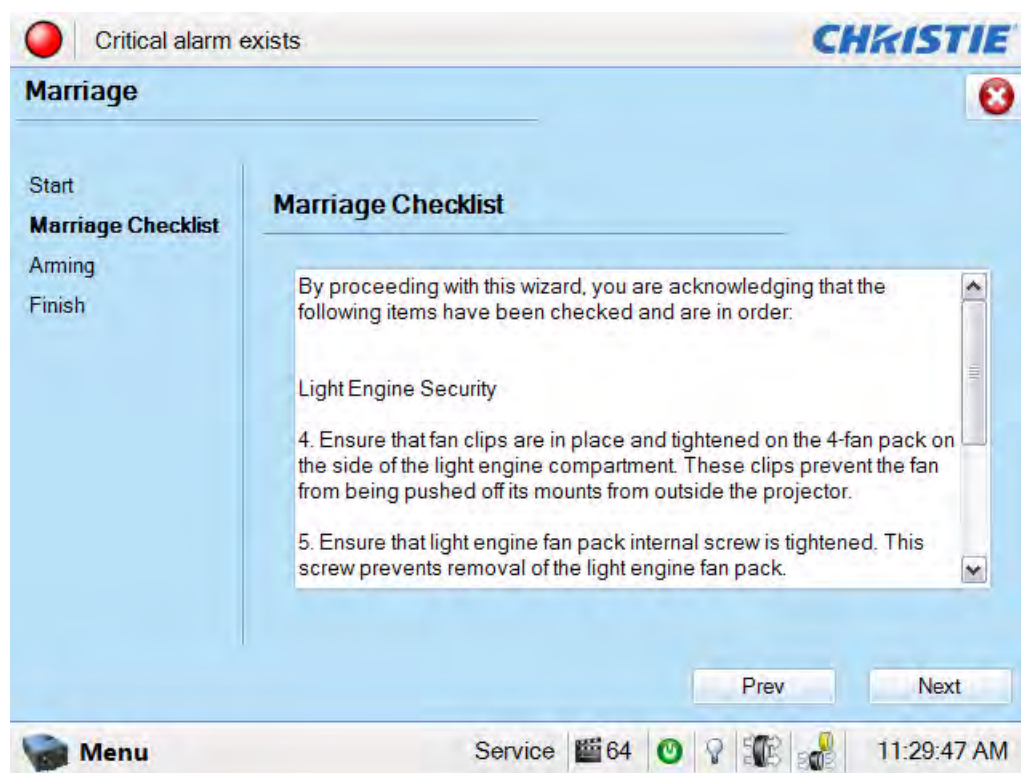
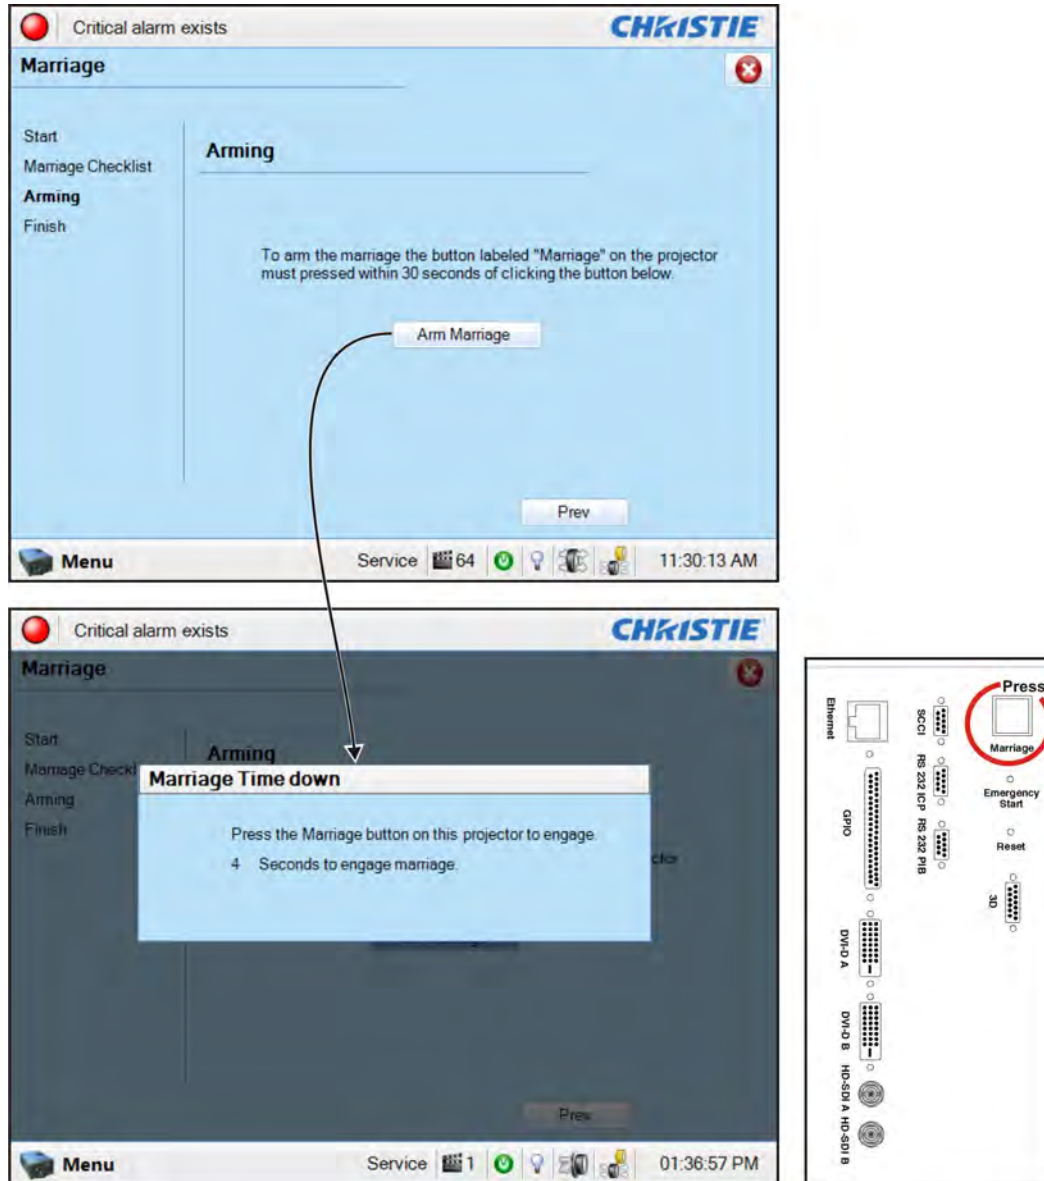

Figure 3-18 Administrator Setup: Marriage Checklist Window
Figure 3-19 Press Marriage Button on PI Board after Clicking Arm Marriage Button
Marriage is the engaging of the DCI physical interlocks that enable the display of secured materials. The **Marriage** window begins a series of panels that guides you through the sequence of steps required to engage the projector's married condition. The left column of the **Marriage** window shows which state you're currently at in the marriage process. **(Figure 3-18)** Click the **Next/Prev** buttons to navigate the series of steps. **NOTE:** Only Christie authorized service technicians can engage the projector's marriage. One of the key ideas behind marriage is that an authority figure examine the projector and ensures that it has not been tampered with before a marriage can be performed. This means that a person must be physically at the projector when the marriage is performed - it cannot be done remotely. To ensure this, there is a marriage button on the PI Board panel which must be pressed in order for the marriage to complete. The following are the steps that must be followed for you to perform marriage on the projector.
2. In the **Marriage Checklist** window **(Figure 3-18)**, the wizard checks that all tamper switches are secure and it presents a list of items that you must check to ensure the projector is secure before proceeding. Click the **Next** button to proceed to the **Arming** window.
3. In the **Arming** window, click the **Arm Marriage** button. (Figure 3-18). A 30 second count-down timer begins. (Figure 3-19). The LED in the **Marriage** button on the PI Board will flash green during this count-down. You **MUST** press the **Marriage** button on the PI Board within this 30 second window in order for the marriage to take effect. When the **Marriage** button is pressed, the LED button will change to a solid green to indicate a successful marriage.